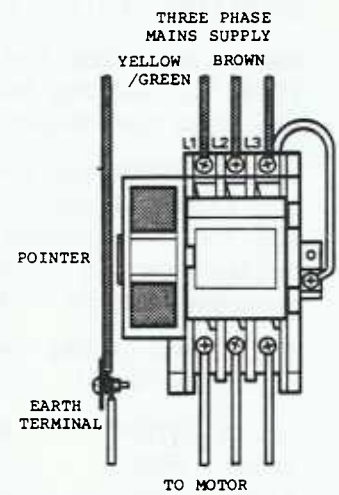

Fig.2.
**FOR THREE PHASE SUPPLY,** connect three supply leads to top terminals L1, L2 & L3 of contactor an earth lead (yellow/green) must be connected to earth terminal of starter (See Fig.2).